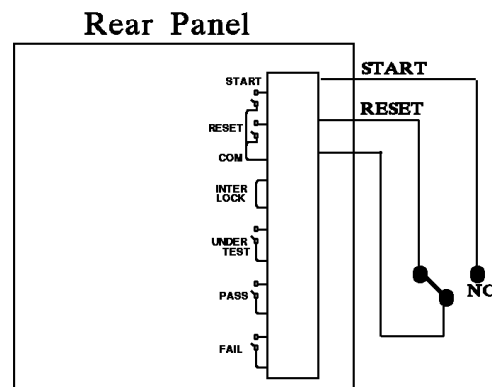

Figure 2-2
- If it is connected as Figure 2-2 shows, the system routine is in RESET state as the NC is connected to RESET and NO is connected to START.